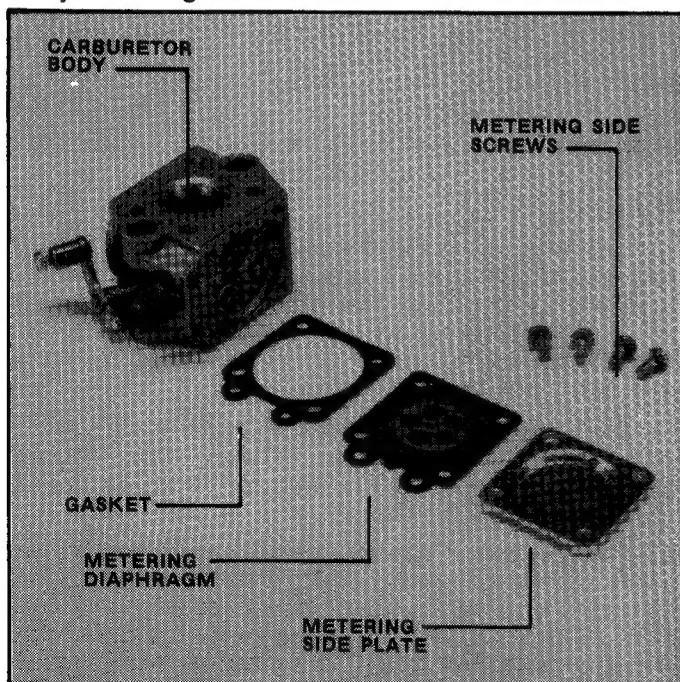

**FIGURE 2.2**
D. The filter screen can now be removed from the carburetor body using the sharp point of a needle or knife and working it against the inside edge in an upward motion. Do not pry between the outside edge and the carburetor body. This practice would result in deforming the filter screen. See Figure 2.2.